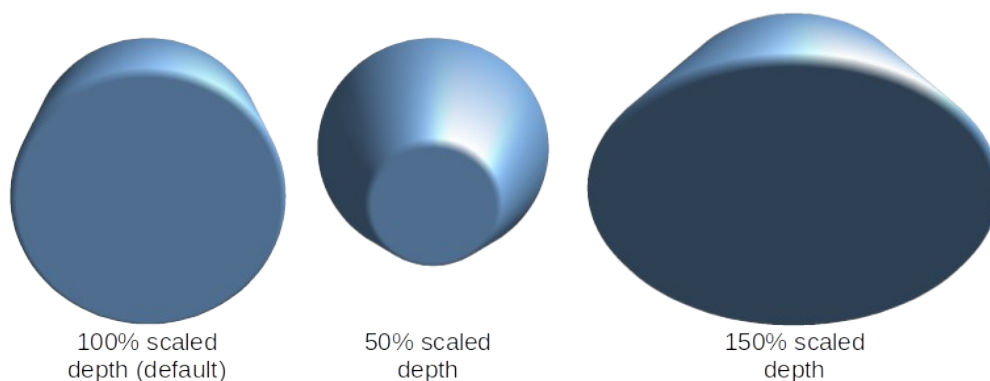

Figure 13: Example of changing scaled depth
- *Scaled depth* – enter the amount required to increase or decrease the frontal area of a selected 3D object. Figure 13 shows an example where the scaled depth has been increased to 150% and then decreased to 50%. The default setting for scaled depth is 100%.